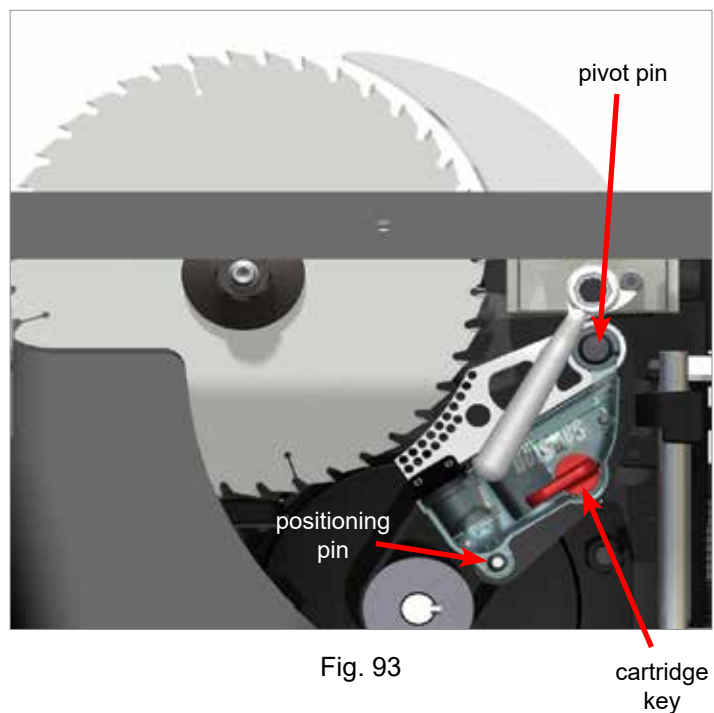
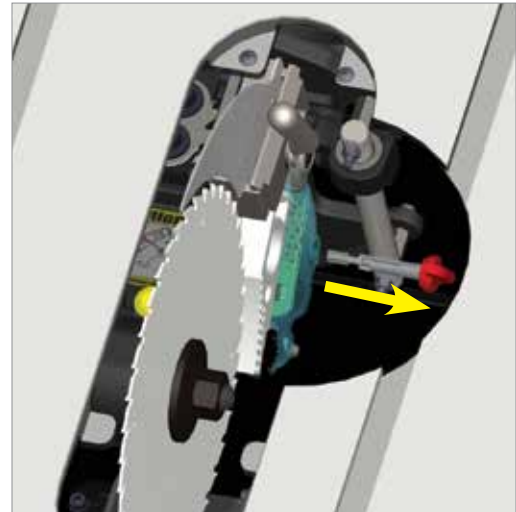

Fig. 93
Fig. 94
The brake cartridge is mounted on a large pivot pin and a smaller positioning pin as shown in Fig. 93. Both the pivot pin and positioning pin extend outward from a cartridge mounting bracket that sets the position of the cartridge. The cartridge mounting bracket also holds a computer cable that self-aligns to the connector in the side of the cartridge. A cartridge key is used to lock the brake cartridge in place against the cartridge mounting bracket.
To remove the cartridge, first remove the cartridge key by turning it 90° clockwise and then pulling it away from the cartridge (see Fig. 94). Set the cartridge key aside for use with the new cartridge.
If the cartridge has been activated, the brake pawl typically will be locked onto the blade or dado set. As a result, it is usually easiest to remove the blade and the brake cartridge together. To remove the cartridge and blade together, first remove the blade nut and washer, and then remove the cartridge key by turning it 90° clockwise and pulling it away from the cartridge (see Fig. 94). You can remove the blade and brake cartridge simultaneously by alternately moving the blade and then the cartridge to the right to “walk” them off the arbor and pins. Often you can “walk” them to the right by hand, but if not, you can use a blade wrench as a lever. To do this, place one end of the wrench between the blade and the side of the arbor block, being careful to maneuver around the dust shroud. Now push the blade a short distance away from the arbor flange (see Fig. 96 on the next page). **Do not place the wrench against the dust shroud because the dust shroud could break.** Next, place the end of the wrench between the brake pawl and the cartridge mounting bracket to gently pry the cartridge away from the arbor block a short distance (see Fig. 97 on the next page). Only move the blade and cartridge a short distance each step, for example, a distance equal to one or two threads on the arbor. Otherwise the brake cartridge may bind on the arbor and pivot pin. Repeat these alternating steps to walk the cartridge and blade off. A significant force may be needed to pry the cartridge off the mounting pin if the brake pawl deformed and pinched the pivot pin when it stopped the blade.
To install a brake cartridge, the above process is reversed. Align the mounting holes in the cartridge with the pivot pin and positioning pin in the saw (see Fig. 93 on page 59). Slide the cartridge onto the pins until the cartridge rests against the mounting bracket. The cartridge will automatically align with a computer cable mounted in the saw.
Next, insert the cartridge key into the hole in the cartridge housing (see Fig. 94 on page 60). The key shaft has a ridge that must be aligned with a channel in the hole. As a result, the key can only be inserted into the hole when the red handle is pointing toward the brake pawl (as shown in Fig. 94 on page 60). Insert the key fully into the hole and rotate the key 90° counter-clockwise to lock the cartridge in place (Fig. 93 on page 59 shows the key in its locked position). The key will not rotate unless it is fully seated against the side of the cartridge housing and the cartridge housing is pressed against the cartridge mounting bracket.